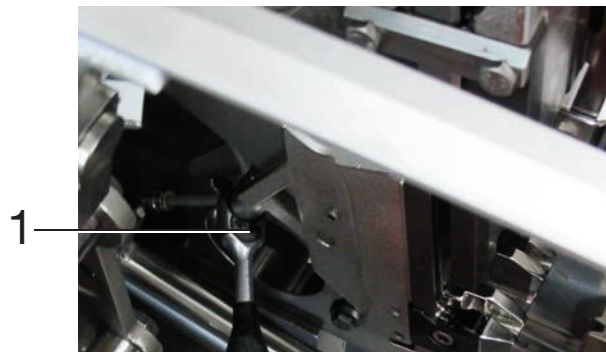

Fig. 7-35 1 Knife cylinder fixing screw
- Tighten the fixing screw (1, Fig. 7-35) on the knife cylinder, but not too tight because that could lead to the machine malfunctioning.